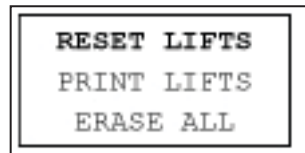

Fig. 3 Erase/Reset Menu
2. Press OK to select ERASE. The menu shown in Fig. 3 will appear. RESET LIFTS will flash. Note that the option PRINT LIFTS will not appear if a printer is not installed and turned on.
3. The menu shown in Fig. 3 will appear. Press ▼ until ERASE ALL is flashing. Press OK to select ERASE ALL.
3. From the erase/reset menu (Fig. 3), press ▼ until PRINT LIFTS is flashing. Press OK.